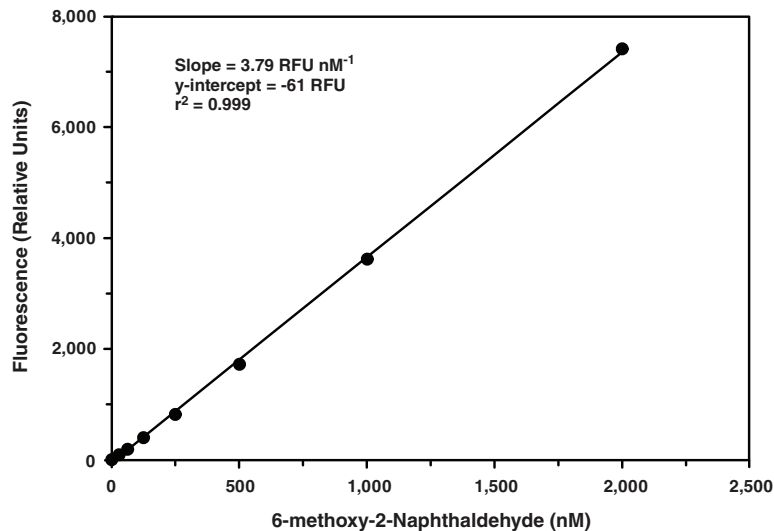

Figure 1. 6-methoxy-2-Naphthaldehyde standard curve
2. Plot the corrected fluorescence values (from step 1 above) of each standard as a function of the final concentration of 6-methoxy-2-Naphthaldehyde. See Figure 1, on page 14, for a typical standard curve.